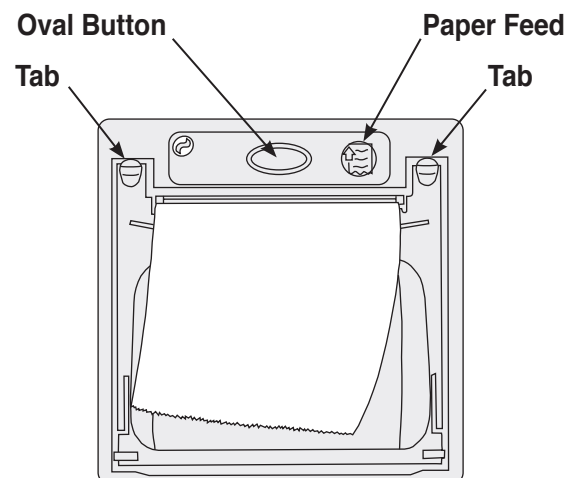

Figure 15
1. Press the oval button at the top of the printer to release the printer cover. See Figure 15.